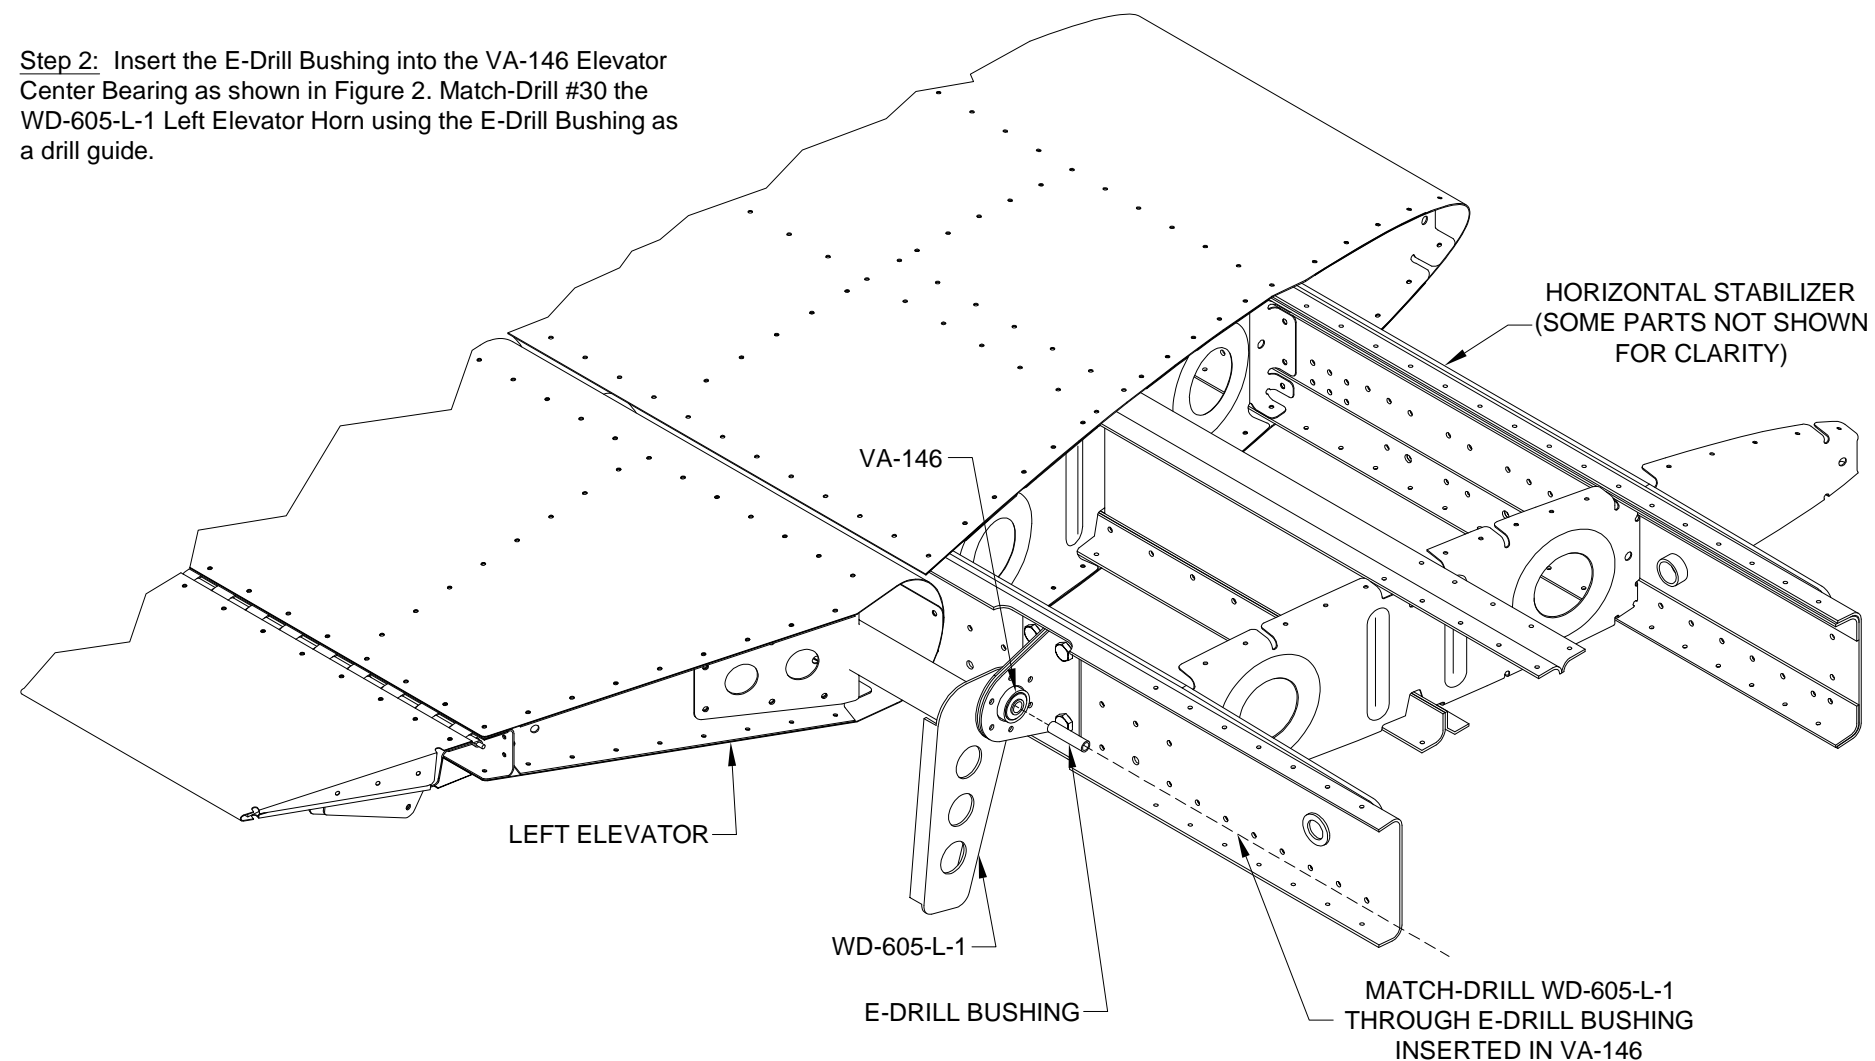

FIGURE 2: MATCH-DRILL ELEVATOR HORN
Step 2: Insert the E-Drill Bushing into the VA-146 Elevator Center Bearing as shown in Figure 2. Match-Drill #30 the WD-605-L-1 Left Elevator Horn using the E-Drill Bushing as a drill guide.